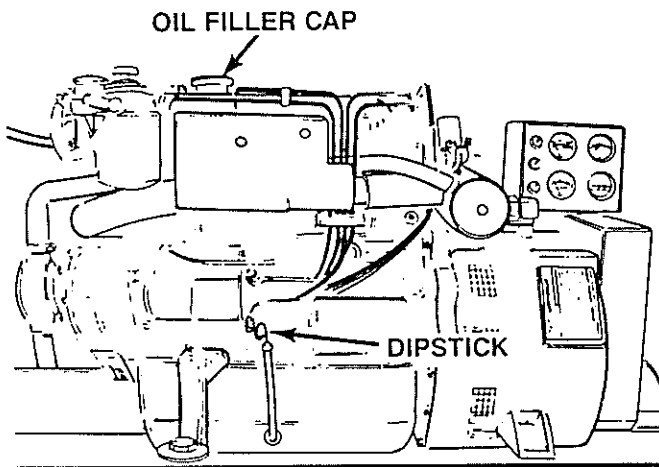

Figure 3-7 Checking Generator Oil Level
11. See Figure 3-7. Check the generator oil level. Pull out dipstick and make sure level is between high and low marks.